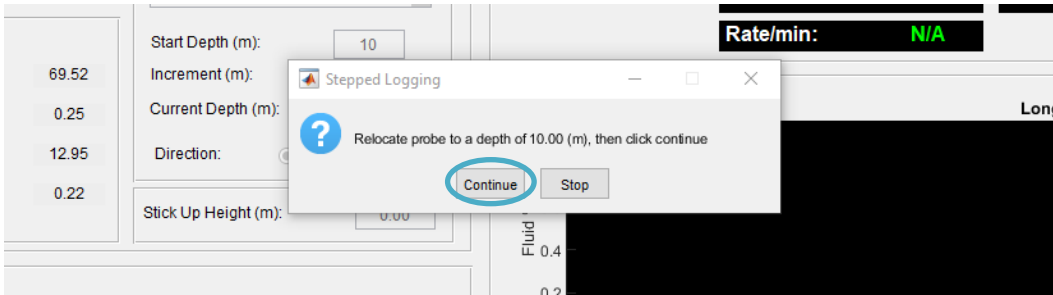

Figure 39: Prompt for raising or lowering probe to a new depth during stepped logging.
- a. In Stepped mode, a popup will prompt you to raise or lower the probe to the indicated depth (see Figure 39). Once the probe has been moved to this depth, click “Continue.” As soon as you click “Continue,” NMR collection will commence at the new depth. (Click “Stop” to end data collection.)